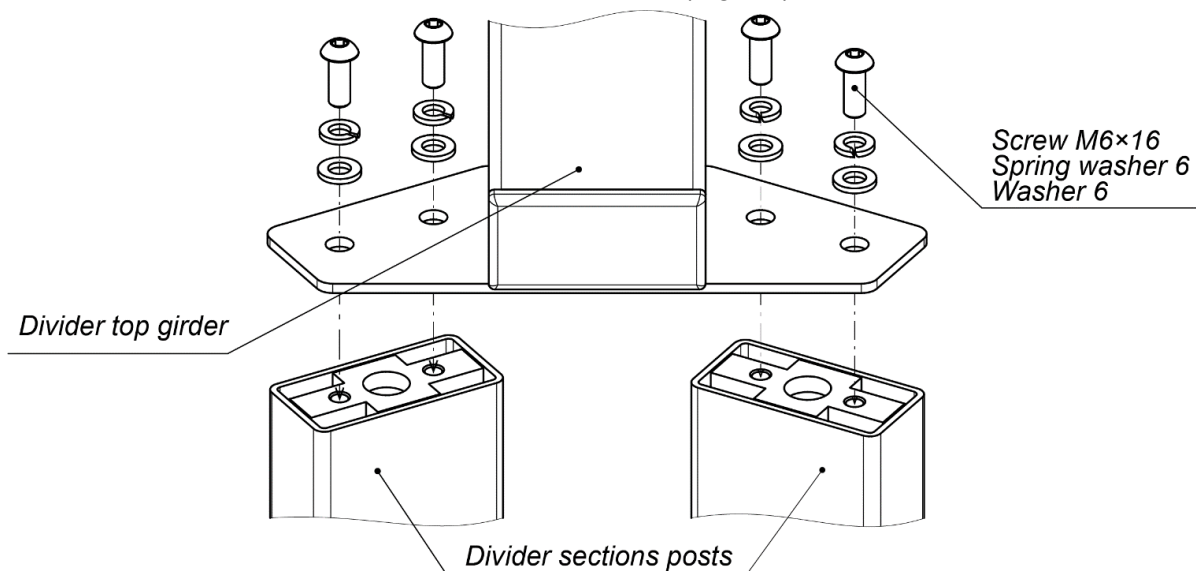

Figure 12. Installation of the top girder of the divider
7. Unpack divider sections (5) and top girder (8) (box №6).
- Erect both divider sections (5) on the mounting surface so that the holes of supporting flanges coincide with the positioning of anchor bolts.
9. Install the divider top girder in divider sections posts and fix them with the screws M6×16 (8 pcs.) with washers, that are included in the installation kit (Fig. 12).